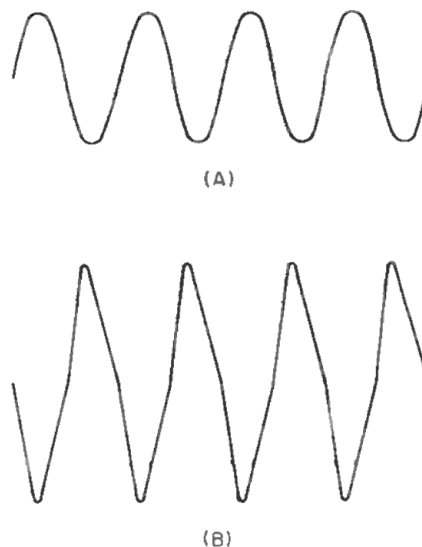

Figure 4. (A) The output waveform below maximum power capability is shown while at (B) we see the output waveform when the core is saturated.
An important limitation on transformer operation is the allowable maximum power level. FIGURE 4(A) shows the output waveforms of an audio transformer in the midband at a level below its maximum capability. When the power level of the transformer is exceeded, the core will saturate (the change in flux is not directly proportional to changes in current) and cause distortion. For a given power level, the flux density increases proportionally as the frequency decreases, so that core saturation is more of a problem at the low end of the transformer pass band. FIGURE 4(B) shows the output waveform of the same transformer when the core is driven into saturation, and severe waveform distortion is evident. Therefore, as power level requirements increase, the amount of core material must increase. Very small transformers can only handle moderate power levels, while larger transformers generally are capable of larger power handling capacities.